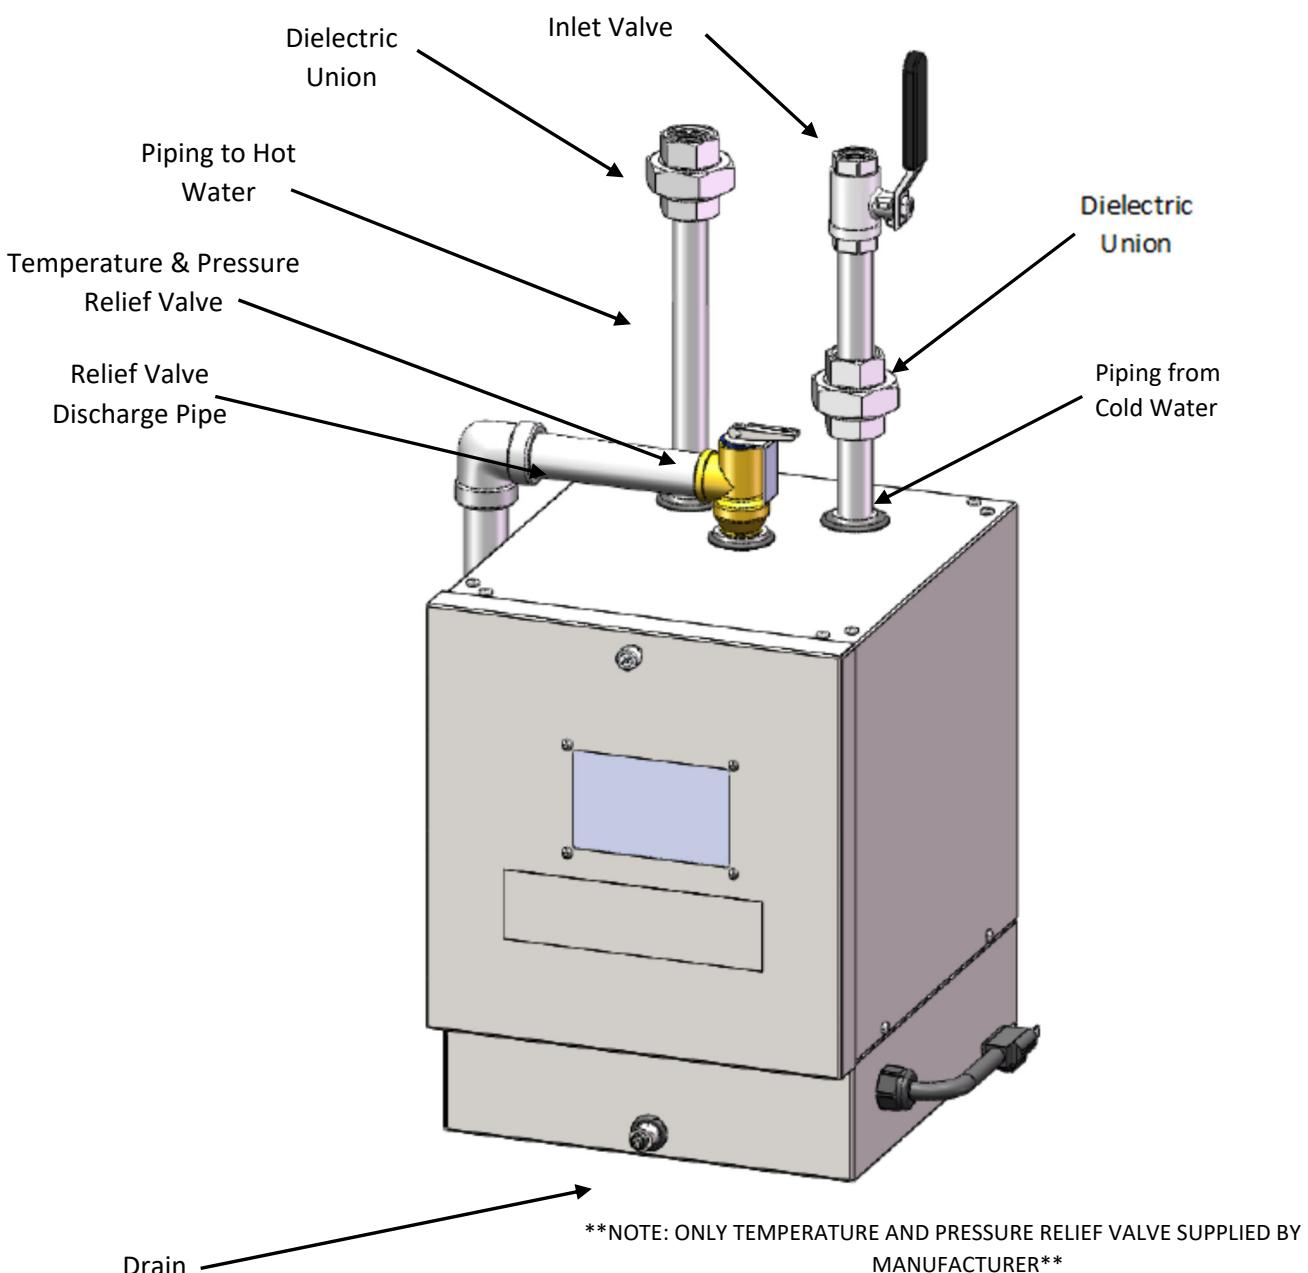

Figure 9: Recommended Installation Diagram
1. Connect the cold-water inlet and hot water outlet to the appropriate connections; refer to Figure 9.